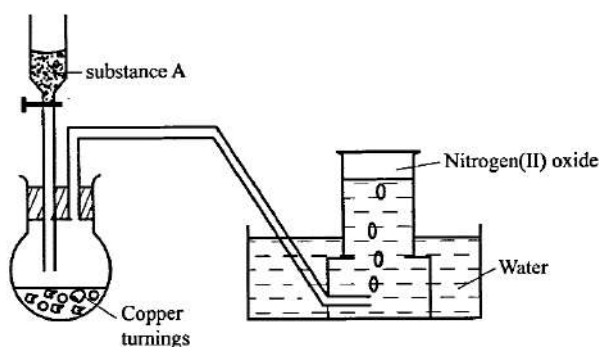

Figure 4
The set-up in **Figure 4** can be used to prepare nitrogen(II) oxide. Use it to answer the questions that follow.